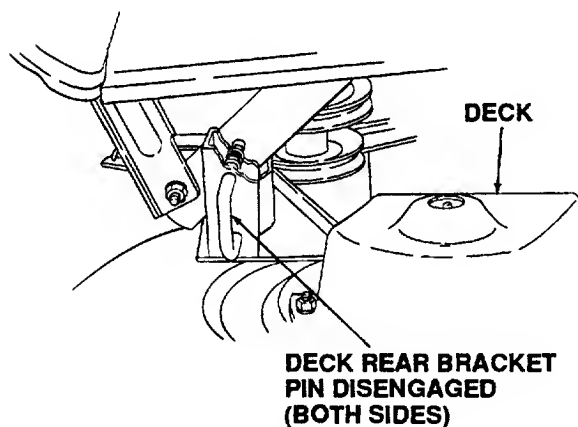

Figure 41
9. Pull the deck rear bracket pins outward, turn downward and release so both spring-loaded pins are held against the outside surface of the brackets in their disengaged positions (Refer to Figure 41).